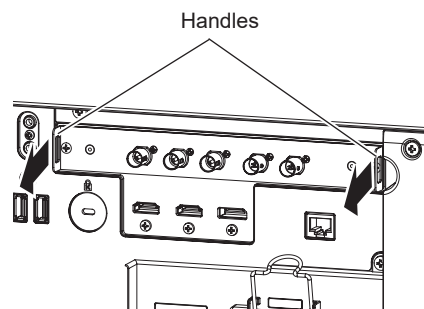

Fig. 1
1) Remove the Function Board. (Fig. 1)